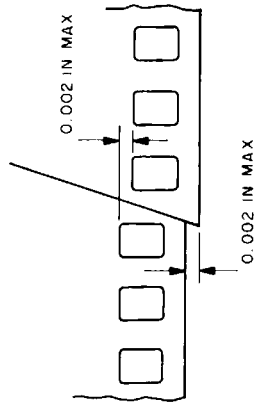

Fig. 1
- 2.3 The spliced film shall be aligned so that if one portion of the spliced film is placed against a straight edge, the other portion will not deviate more than 0.006 in (0.15 mm) in 5 in (125 mm). The perforations across the splice and the film edges shall be aligned in accordance with Fig. 1. The spliced film shall maintain nominal perforation pitch as specified for the film gauge used. The splice shall have a negligible gap between the mated cuts of the film ends and there shall not be any film overlap at the splice.